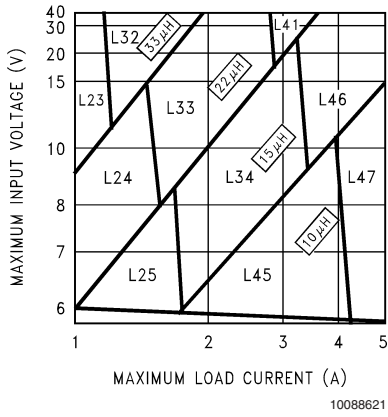
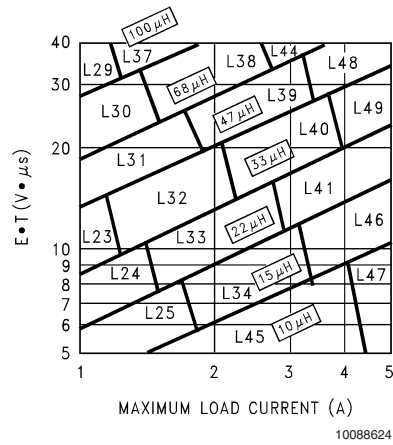

FIGURE 3. LM2678-3.3
FIGURE 6. LM2678-ADJ
Step 3: Determine the inductor required by using one of the four nomographs, *Figure 3* through *Figure 6*. Table 1 provides a specific manufacturer and part number for the inductor.
Step 5: Determine an input capacitor from Table 4 for fixed output voltage applications. Use Table 2 to find the specific capacitor type. For adjustable output circuits select a capacitor from Table 2 with a sufficient working voltage (WV) rating greater than $V_{in\ max}$, and an rms current rating greater than one-half the maximum load current (2 or more capacitors in parallel may be required).
Step 3: Use the nomograph for the 3.3V device, *Figure 3*. The intersection of the 16V horizontal line ($V_{in\ max}$) and the 4A vertical line ($I_{load\ max}$) indicates that L46, a 15 μ H inductor, is required.
Step 3: To use the nomograph for the adjustable device, *Figure 6*, requires a calculation of the inductor Volt•microsecond constant ($E \cdot T$ expressed in $V \cdot \mu s$) from the following formula:
Using *Figure 6*, the intersection of 27V• μs horizontally and the 3.5A vertical line ($I_{load\ max}$) indicates that L48, a 47 μ H inductor, or L49, a 33 μ H inductor could be used. Either inductor will be suitable, but for this example selecting the larger inductance will result in lower ripple current.
Important Note: When using the adjustable device in low voltage applications (less than 3V output), if the nomograph, *Figure 6*, selects an inductance of 22 μ H or less, Table 6 does not provide an output capacitor solution. With these conditions the number of output capacitors required for stable operation becomes impractical. It is recommended to use either a 33 μ H or 47 μ H inductor and the output capacitors from Table 6.